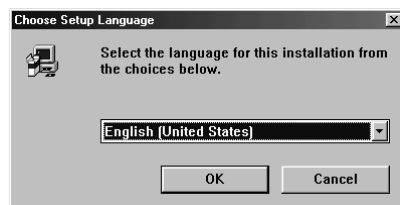

Figure 14: Installing PhotoExpress 2.0
2. The CD-ROM will start automatically. Figure 14 will pop up on your screen. Proceed with step 5. If the CD does not start automatically, start it up manually.
4. Type [D:\SETUP.EXE] in the command line and click on 'OK' to start the program. Figure 14 will pop up.